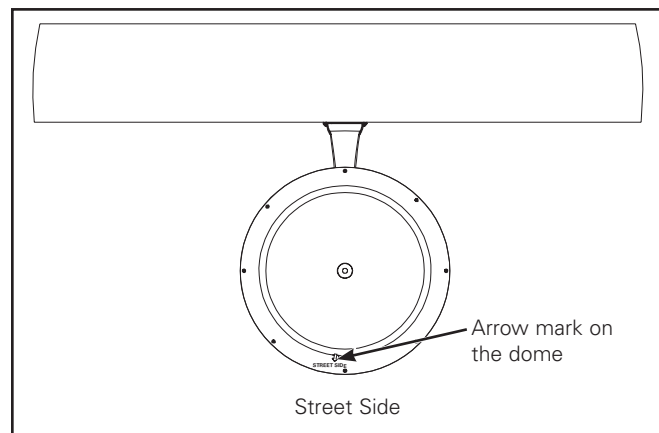

Figure 23.
11. Rotate the fixture in desired position. For luminaire with asymmetric optics, rotate the fixture according to arrow mark on the dome towards the street side. (Figure 23.)